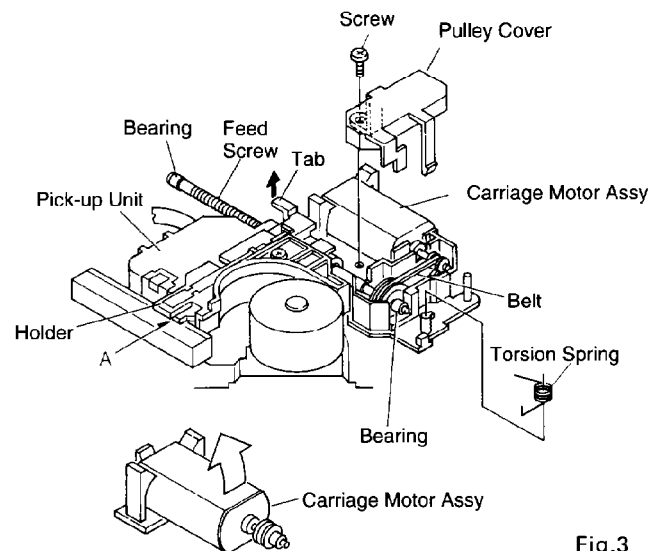

Fig. 3
3. Remove the Torsion Spring which is pressed against the leading edge of the Feed Screw.(Fig.3)
4. Remove the Screw and Pulley Cover.(Fig.3)
5. Remove the Belt and the Pick-up Unit with the Feed Screw still attached.(Fig.3)
6. Lift the Tabs of the rack section of the Holder and remove the Feed Screw. While doing so, be careful not to lose the Bearings on the ends of the Feed Screw.(Fig.3)
### ● Removing the Carriage Motor Assy (Fig.3)